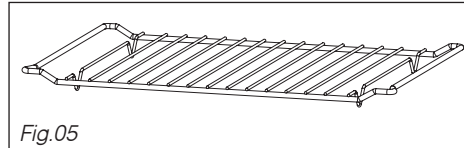

Fig.05
• **Grid (Fig.05):** Allows you to toast, brown or grill. The grid should not under any circumstances be used with other metal cookware on the microwave, grill + microwave or fan heat + microwave settings. However, you can reheat food in an aluminium tray if you insulate it from the grid using a plate.